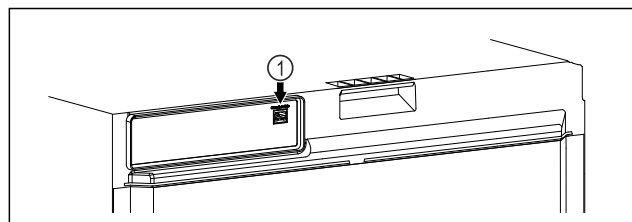

Fig. 117
- ☐ SmartModule Fig. 117 (1) has been inserted.